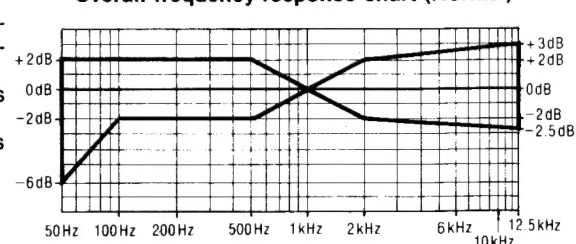
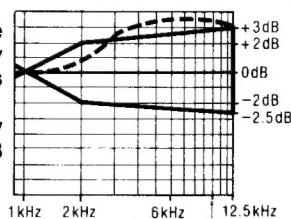
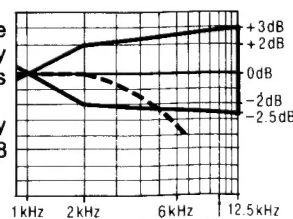

Fig. 11
Fig. 12
Fig. 13
6. Playback the signals recorded in step 6, and check if the frequency response curve is within the limits shown in the overall frequency response chart for normal tapes (fig. 11).
When the curve exceeds the overall specified frequency response chart (fig. 11) as shown in fig. 12.
When the curve falls below the overall specified frequency response chart (fig. 11) as shown in fig. 13.
- 2) Repeat steps 5 and 6 for confirmation (Proceed to steps 7, 8 and 9 if the curve is now within the charted specifications as shown fig. 11.)
- 3) If the curve still exceeds the specifications (fig. 11), increase bias current further and repeat steps 5 and 6.
2) Repeat steps 5 and 6 for confirmation (Proceed to steps 7, 8 and 9 if the curve is now within the charted specifications as shown fig. 11.)
- 3) If the curve still falls below the charted specifications (fig. 11), reduce bias current further and repeat steps 5 and 6.